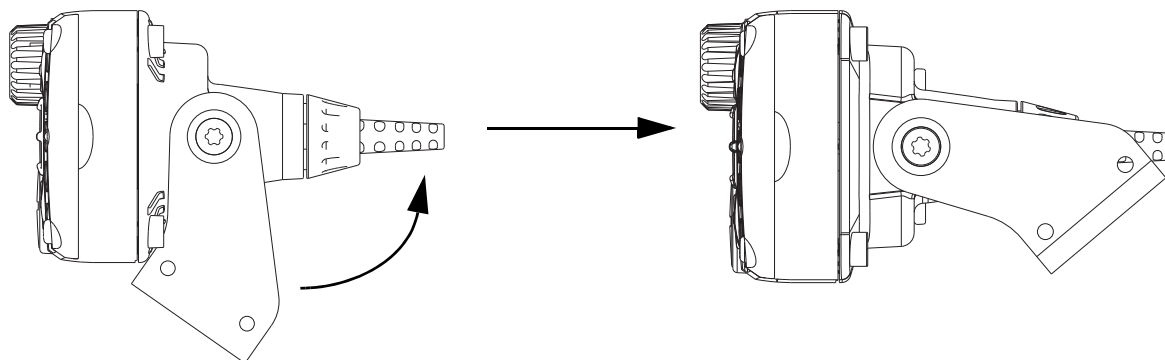
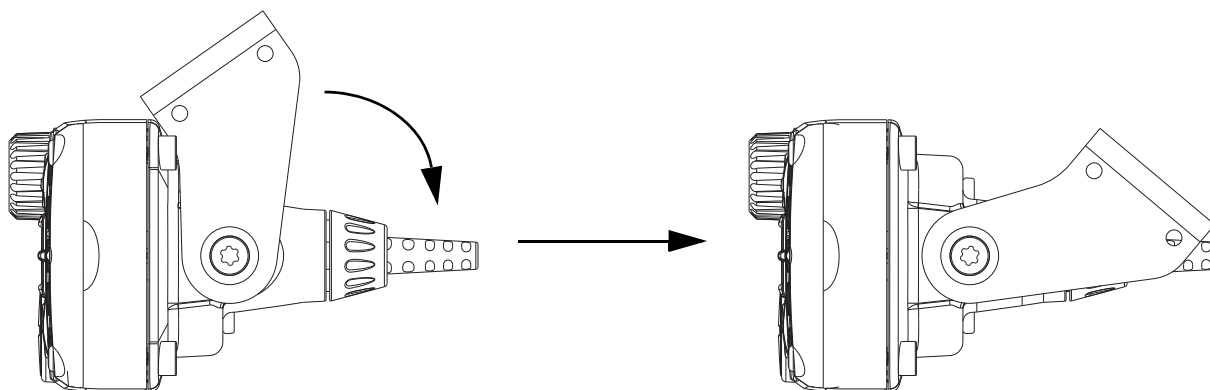

Figure 18 Upward Movement
Figure 19 Downward Movement
3. There are two ways to mount the motorcycle trunnion, each limited to a 77 degree of allowable movement, as shown in Figure 18 and Figure 19: